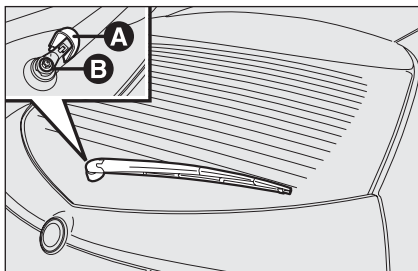

fig. 16
- raise cover **A**-fig. 16 and remove the arm by loosening the nut **B** that secures it to the revolving pin;